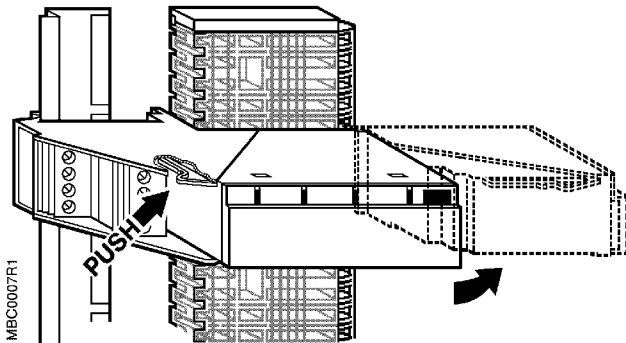

Figure 6. To Reposition or Remove a Point Module.
6. To reposition or remove the point module, push the point module toward the termination block and press the module housing release tab located at the left-hand side of the point module. Then tilt the point module (Figure 6).